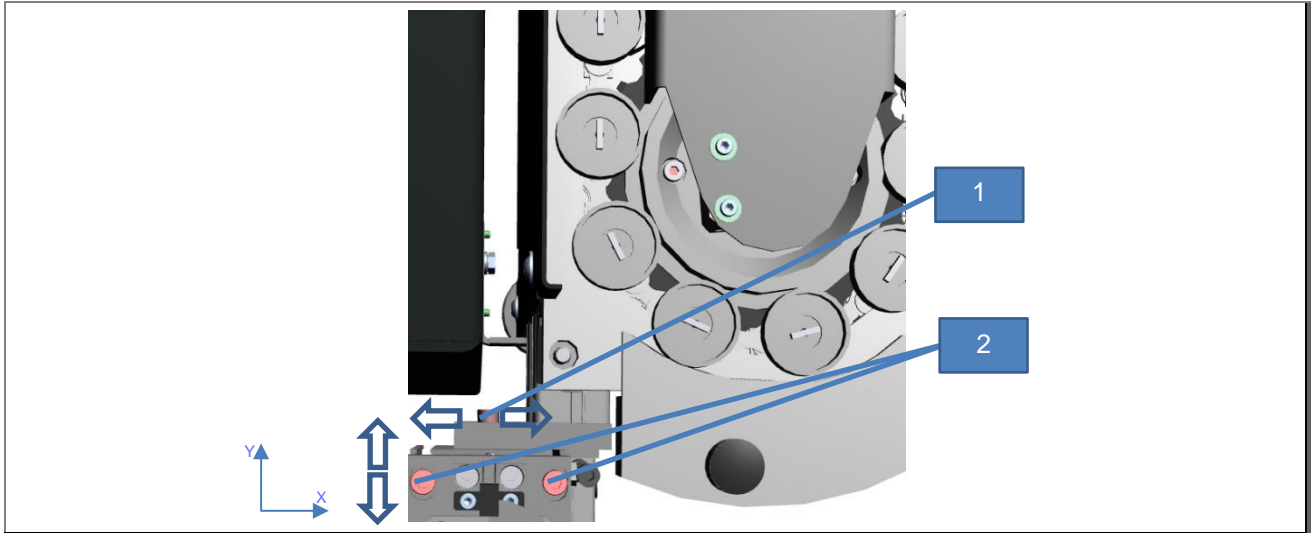

Fig. 14: Adjusting the gripper arm position
1. Release the screws for the X (1) and Y (2) position of the gripper arm (see Fig. 14: Adjusting the gripper arm position)
5. Tighten the screws for the X (1) and Y (2) position of the gripper arm (see Fig. 14: Adjusting the gripper arm position).